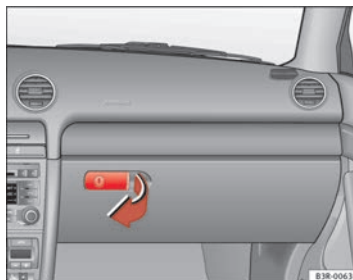

Fig. 127 Glove compartment
- Pull the handle on the lid in the direction indicated (arrow) ⇒ **fig. 127** and open the lid.